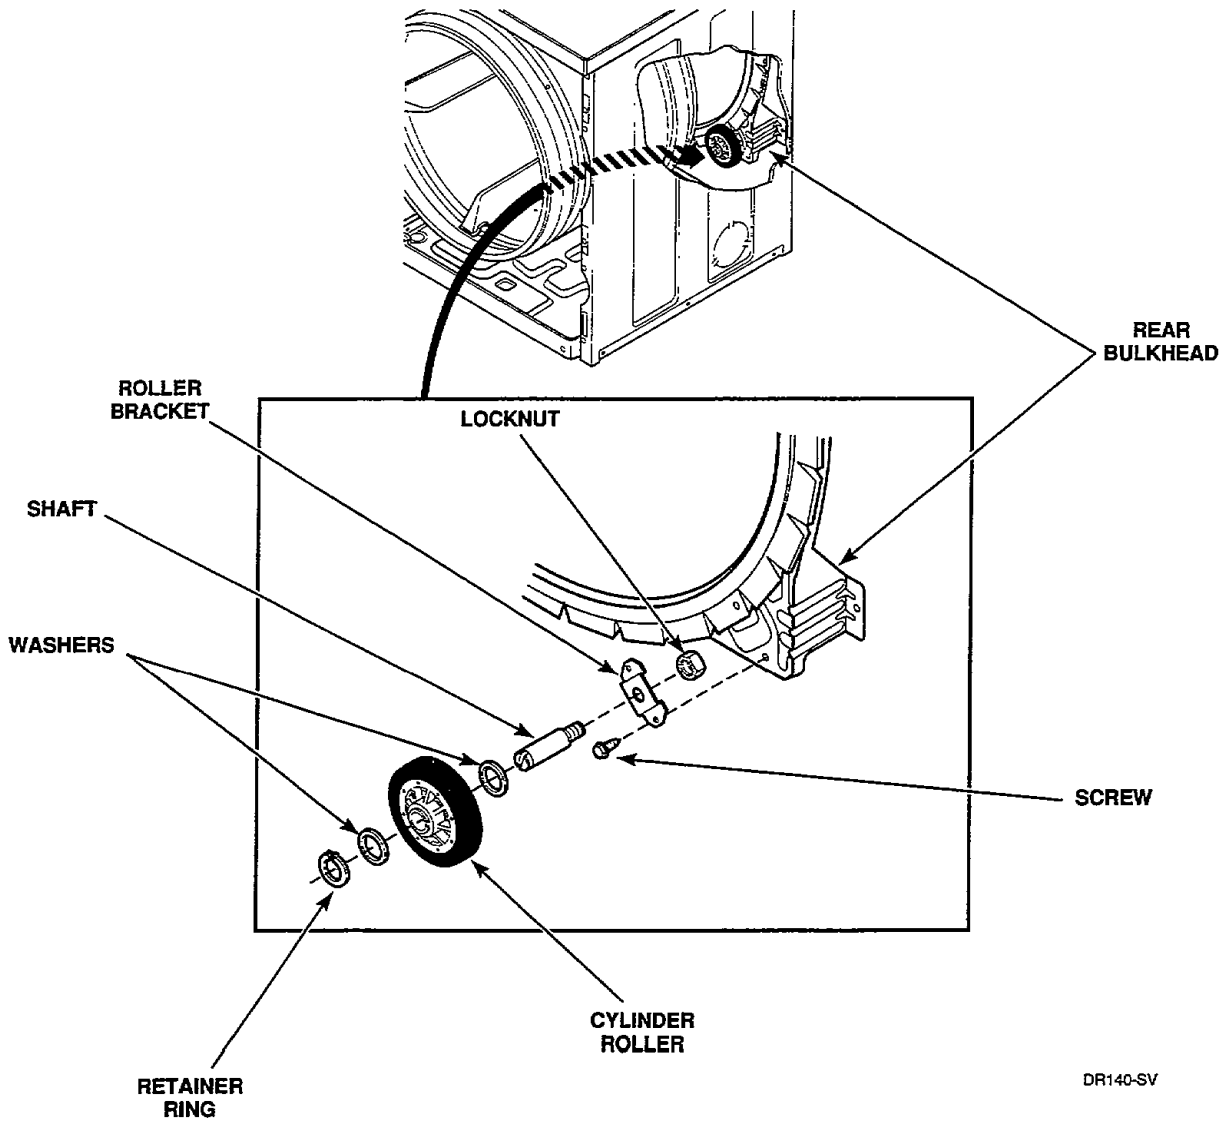

Figure 37
- Pull cylinder forward allowing rear of cylinder to drop down exposing rollers, *Figure 37*.
- Refer to *Figure 37* for removal of roller from bulkhead.